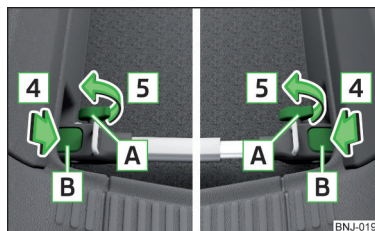

Fig. 119 Install crossmember: Tighten the screws
- › Push the mounts **B** in the direction of arrows **4** until they click» Fig. 119.